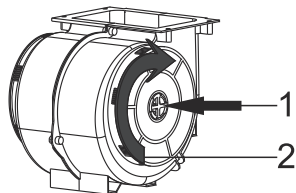

Fig. 7: AF100 CARBON FILTER
- 1-Place the carbon filter in its housing.Fig. 7
- 2-Rotating the carbon filter clockwise, ensure that it is completely fit.Fig. 7